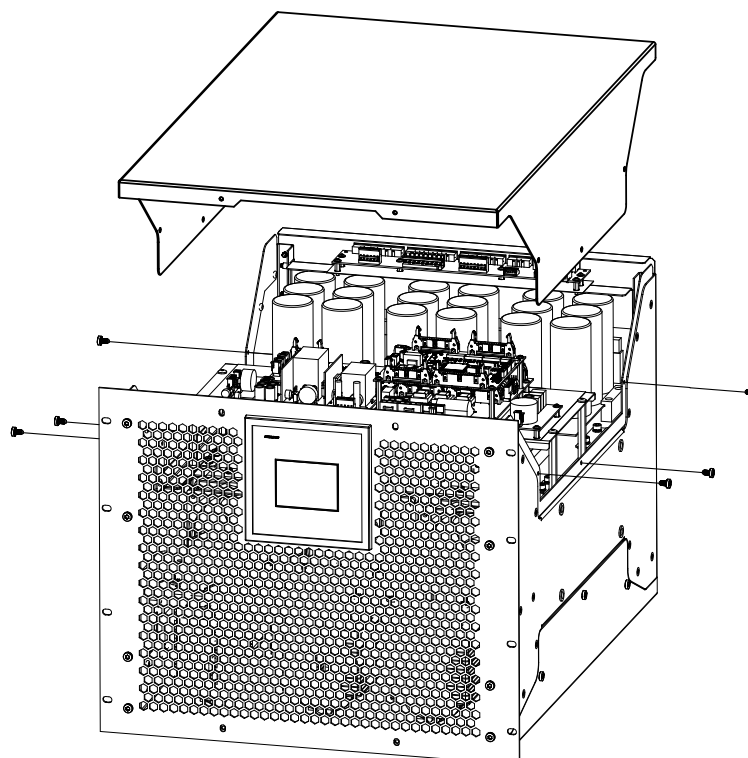

Figure 83: Loosen the 6 fixing screws and remove the back cover.
3.- Loosen the 6 fixing screws in the upper cover and remove the cover, **Figure 83**.